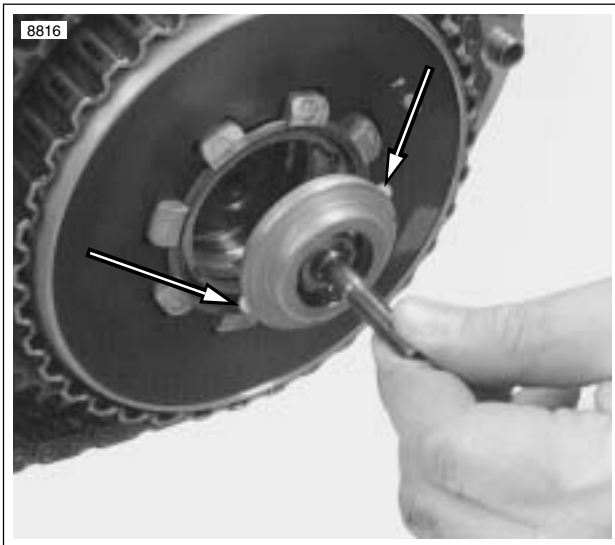

Figure 6-35. Adjusting Screw Assembly Aligning Tabs
1. See Figure 6-35. Remove adjusting screw assembly in order to install mainshaft nut and washer.